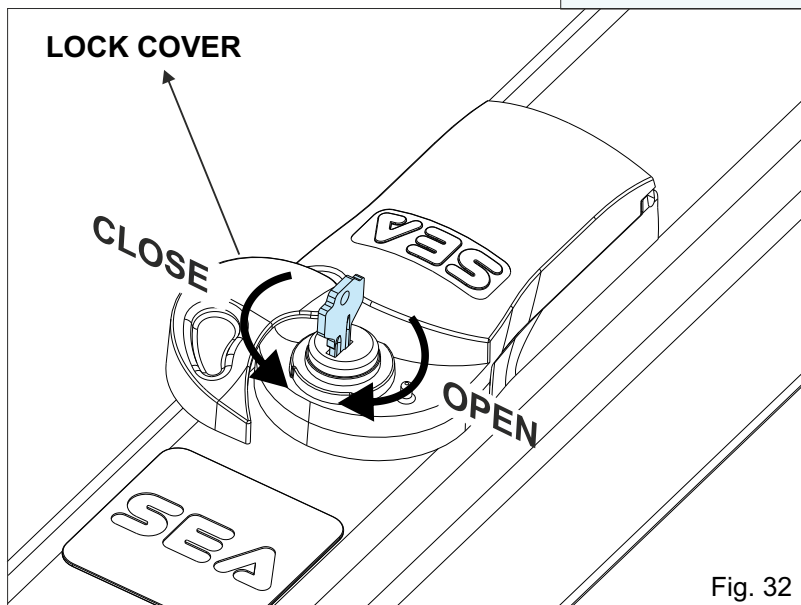
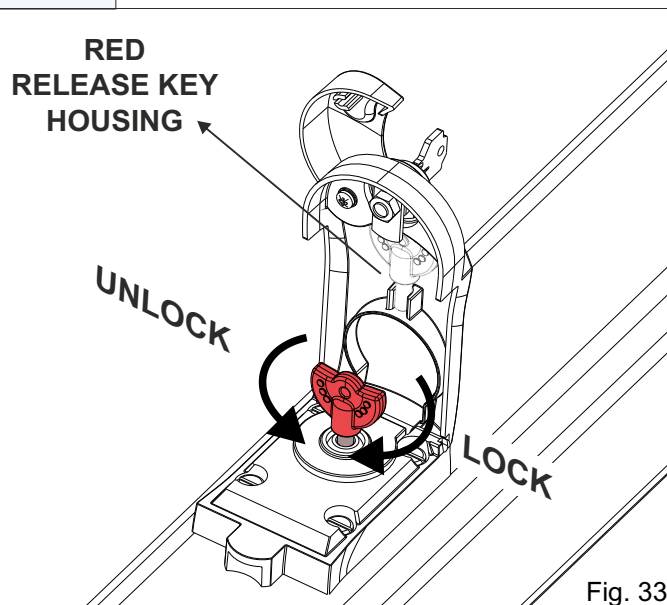

Fig. 32
Fig. 33
- Unlock the operator (release procedure on Fig. 32 and Fig. 33)
- Open the lock cover, insert the key and turn about 90° clockwise (Fig. 32)
- Insert the red release key and turn about 90° anti-clockwise (Fig. 33)
- Turn the red key clockwise until it stops, remove and pull it in the housing under the lid (Fig. 33)